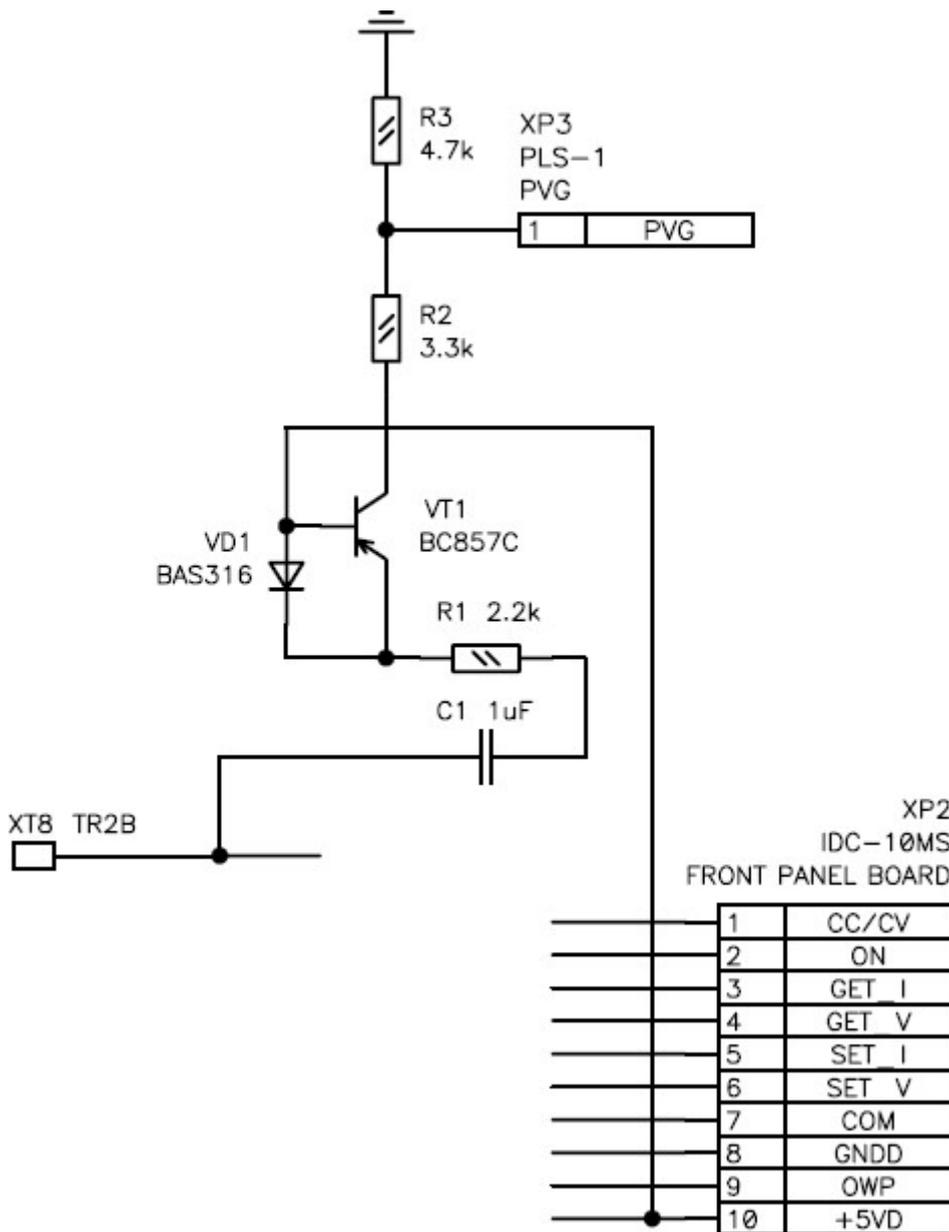
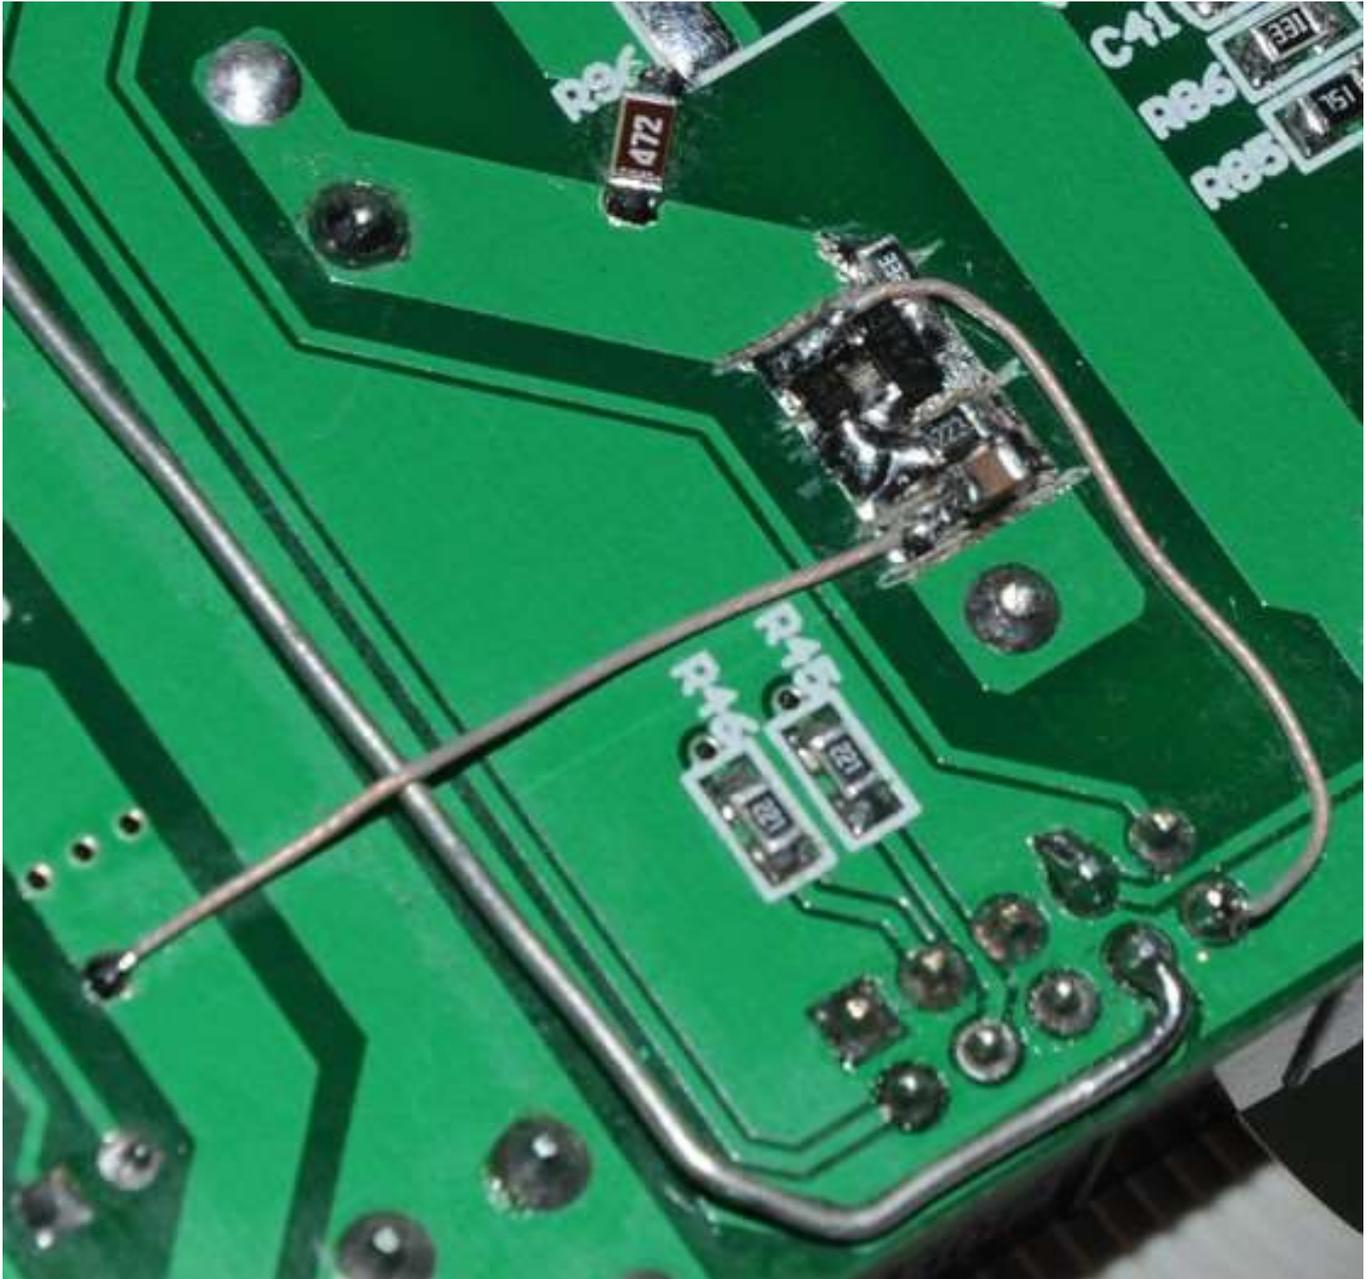
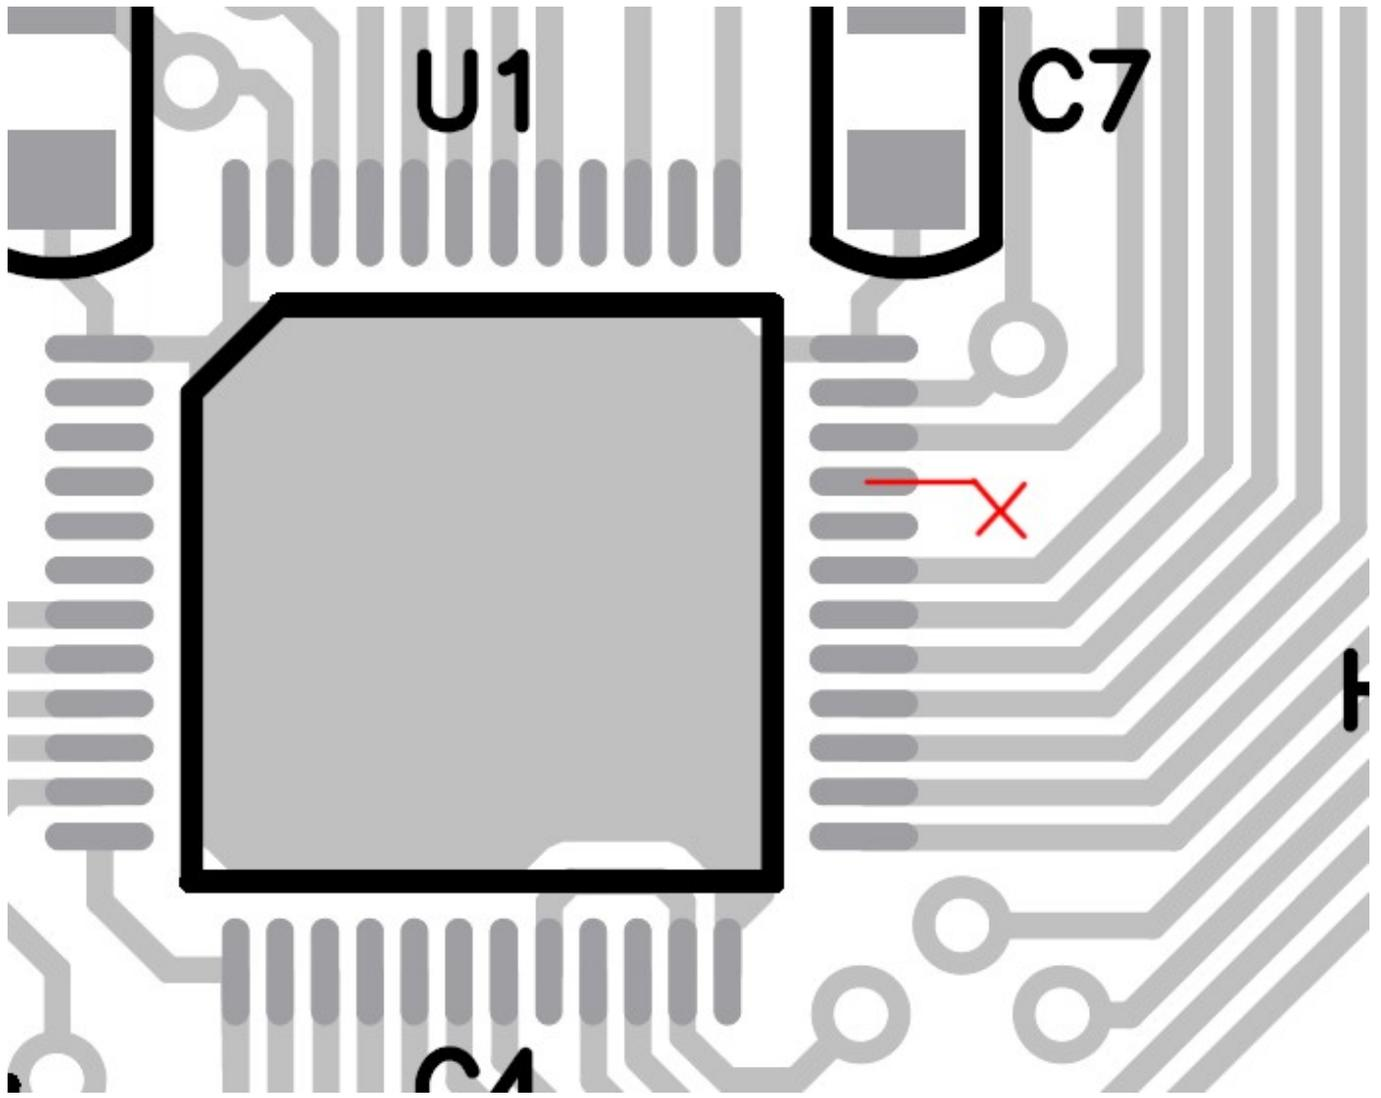
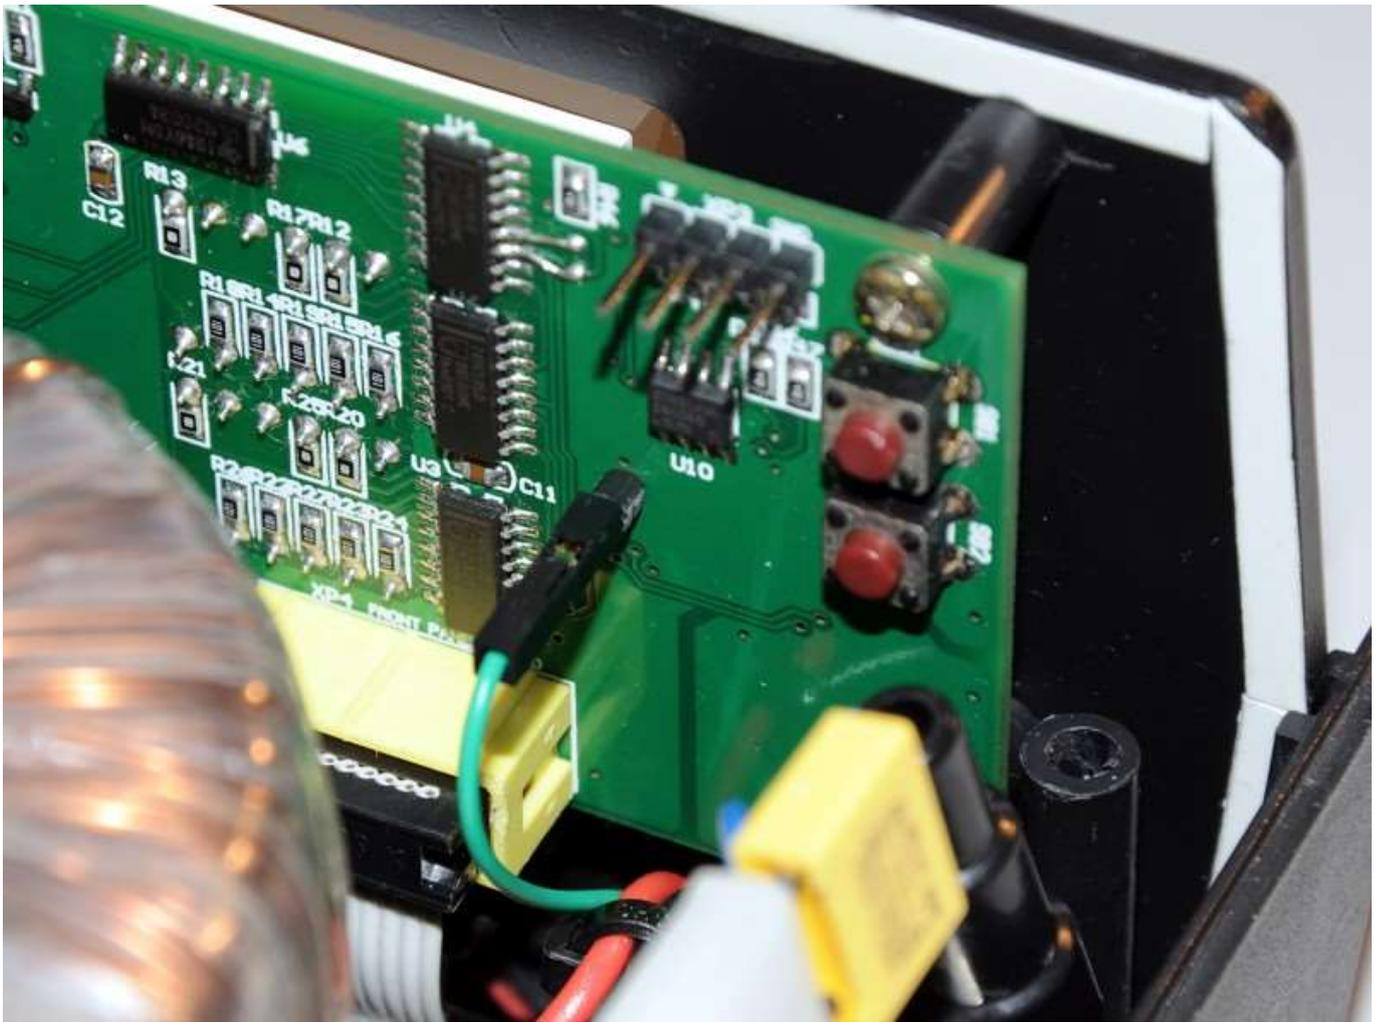

Fig. 11.
Fig. 12.
Fig. 13.
Fig. 14.
16. **Modification is not necessary** - when the power is turned off, all sorts of unnecessary values flash on the display, the sound emitter beeps. To fix the problem, you need to add a power detector circuit (see Figure 11). The circuit can be assembled by any method of mounting on the main board (Fig. 12). The output of this circuit is wound onto the pin, then connected to the pin on the front panel board with a wire (Fig. 14). It is pressed into a hole with a diameter of 0.7 mm drilled at the point marked in Fig. 13. The pin is connected by a jumper to pin 33 (PA12) of the controller (Fig. 15).